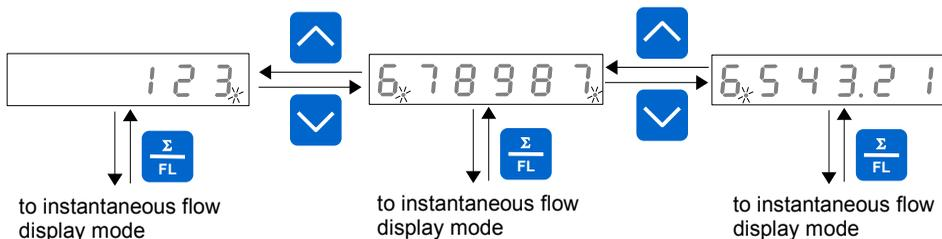

Figure 6.1. Switching between digits (screens) of total flow result.
- If total flow counter value is displayed (LED named “Σ” is on), and its length exceeds 6 digits, buttons [^] and [v] enable switching between more and less significant digits. Positions of currently displayed digits are signaled by flashing decimal points (see example below and Figure 6.1).
- while medium digits are displayed both most left and most right decimal points are flashing (Figure 6.1). Most right decimal point signalizes than result has less significant digits – to see these digits press [v] button. Most left decimal point signalizes additional more significant digits. Press [^] button to see these digits.